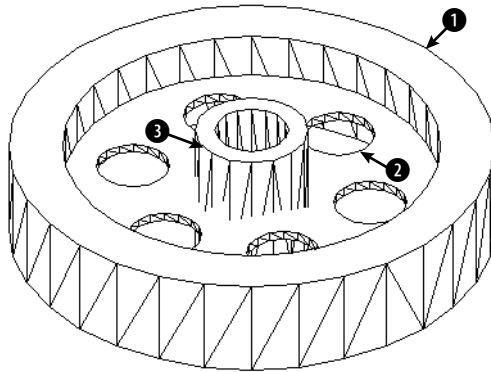

Figure 24-18: The result of three subtraction operations.
- 7.** Use the HIDE command to see the result. This enables you to check the effects of the subtraction operations. Your drawing should look like Figure 24-18.
- 8.**  Choose Union from the Solids Editing toolbar. Select the three solids at 1, 2, and 3 in Figure 24-18 and right-click to end selection.